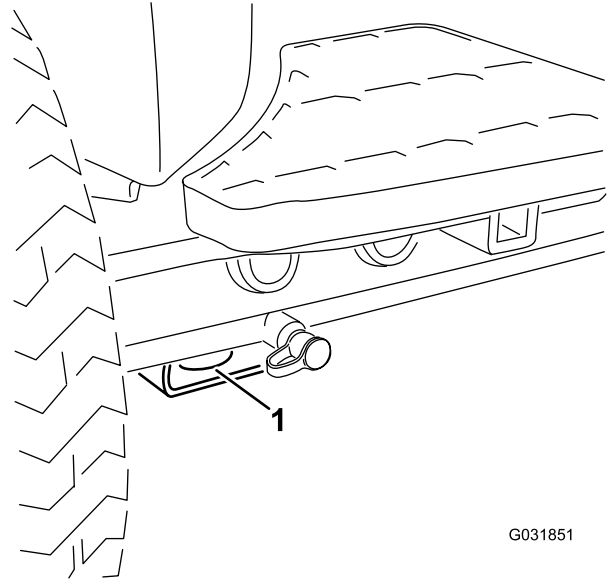

Figure 24
- **Front of the machine**—the hole in the rectangular pad, under the axle tube, inside each front tire (Figure 24).